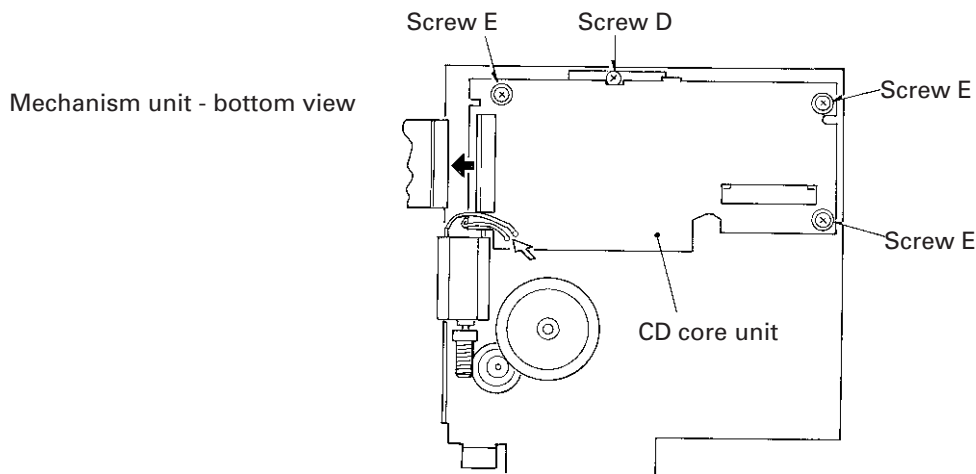

Fig. 24
4. Remove screw D and three screws E and then the CD core unit (see Fig. 24).